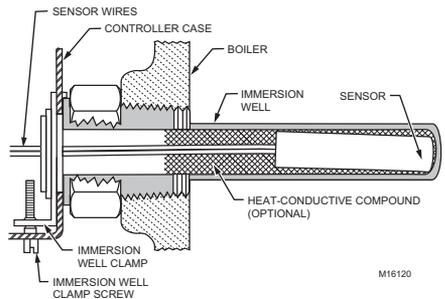

Fig. 2. Position of sensor in immersion well.
If the well is not a snug fit on the sensor, use heat-conductive compound (see Accessories) as follows: Fold the plastic bag of compound lengthwise and twist it gently. Then snip off end of bag and work the open end of the bag all the way into the well. Slowly pull out the bag while squeezing it firmly to distribute compound evenly in the well. Bend the wiring, if necessary, to hold the sensor against the bottom of the well and to hold outer end of the sensor in firm contact with the side of the well. See Fig. 2. Wipe excess compound from the outer end of the well.
3. Insert the sensor into the well as shown in Fig. 2. (See Replacement Sensor Installation section for details.)